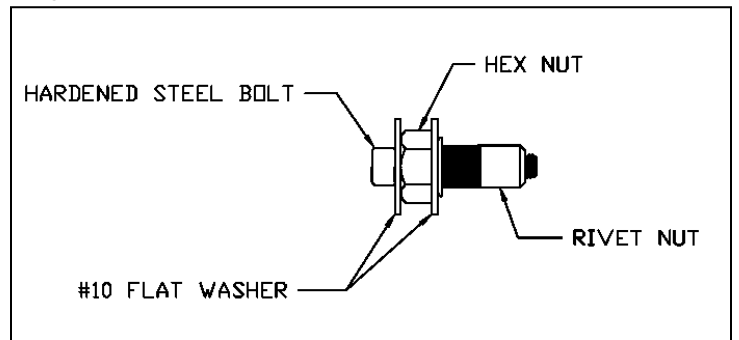

Figure 2
9. Place a #10 flat washer, hex nut, another #10 flat washer and rivet nut on black hardened steel bolt, shown in **Figure 2**, and place in drilled hole. Use a  $\frac{7}{16}$ " wrench to hold nut and  $\frac{5}{32}$ " hex bit to turn the hardened steel bolt until rivet nut is tightened down. (**Do not install with drill, use hand tools only**). Remove hardened steel bolt, flat washers and hex nut. Repeat in all four holes.